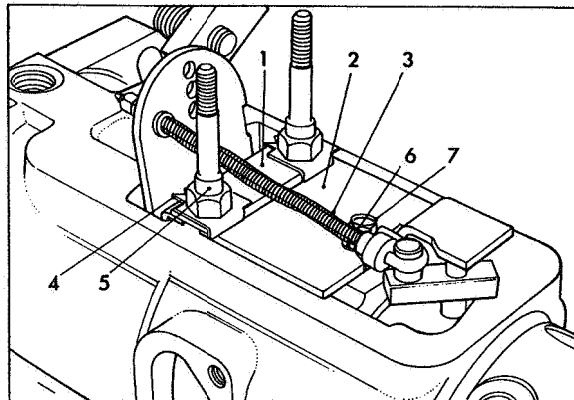

Fig 28 Fitting governor linkage
Position the keep plate (1) Fig 28 on the control bracket (2) so that the slotted end faces away from the linkage hook assembly (3). Position the two new tab washers (4) with the lips positioned nearest to the metering valve and engaging the long edge of the keep plate. Screw in the two governor control cover studs (5) and finger tighten. Place a new bracket screw tab washer (6) in the correct position shown with the tail bent down over that edge of the control bracket lying under the hook of the linkage assembly. Insert new bracket screw (7) and tighten bracket screw and control cover studs to correct torque values. Lock all tabs.